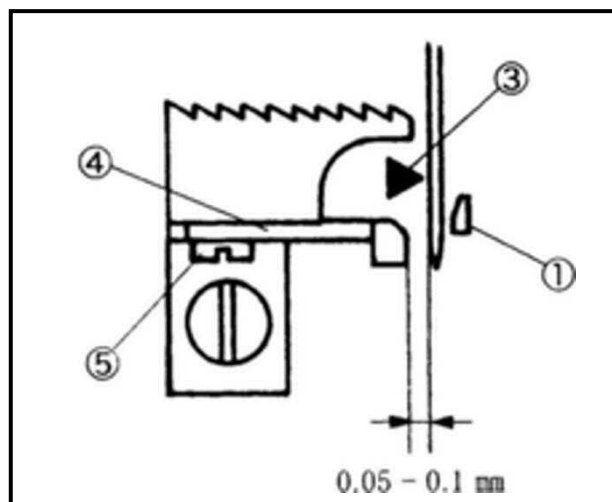

Fig.58
当后护针④和机针最靠近的时候，要有 0.05-0.1mm 的间隙。由螺钉⑤去调整。(Fig.58)
Make the standard clearance between the needle guard (rear) ④ and the left needle to 0.05-0.1 mm when they meet most closely. Open the looper cover and loosen the screw⑤ to adjust it. (Fig.58)